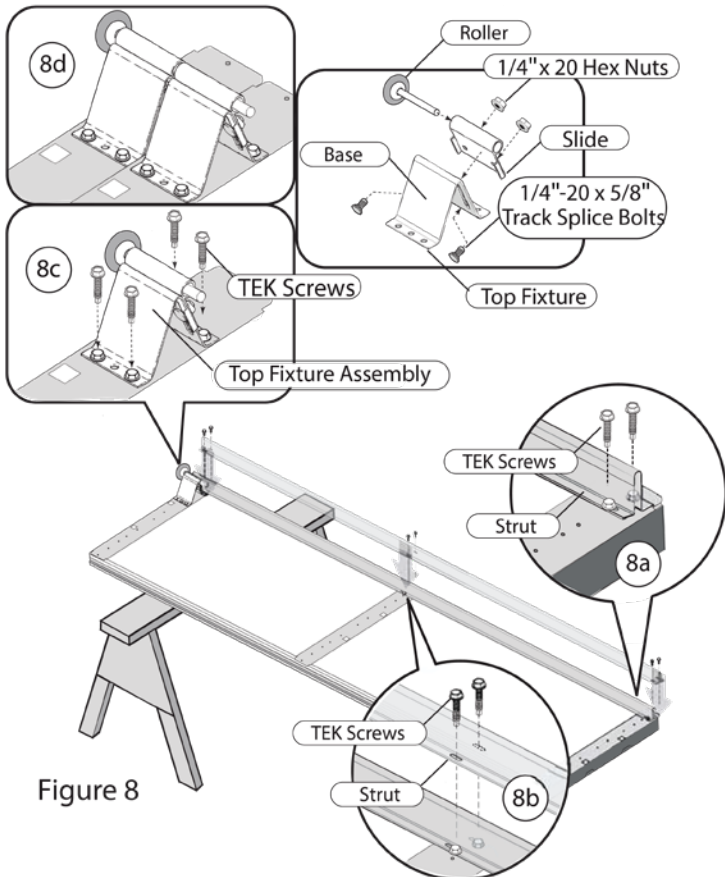

Figure 8
If Struts are required, location is shown on page 15. Install using (2) 1/4-20 x 1" TEK Screws into each Center and End Stile (Figures 8 & 9 for low headroom).